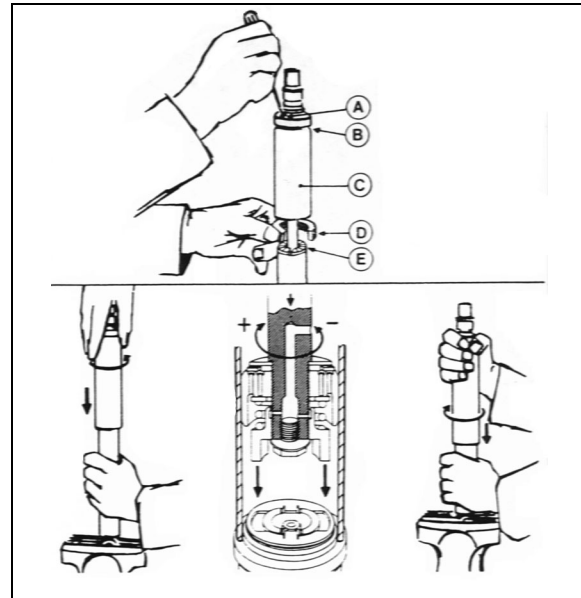

FIGURE 27: DAMPER
To adjust opening and closing cycle speed on damper (Figure 27):
2. Fully close the damper while turning the dust cap or piston rod slowly CCW until it is felt that the cams of the adjusting nut engage in the recesses of the foot valve assembly (Figure 27).
In Figure 27, if there is an indentation (B) in the dust cap (C) and the cover shows two holes (A), the damper is fitted with a bump rubber (D). If so, fully extend the damper and insert a round bar or screwdriver through the holes. Push the bump rubber down and remove. Remove the split plastic collar (E) (if fitted) from the piston rod.
Where a bump rubber was installed, refit same inside the dust cap and by fully closing the damper, the rubber will seat again at top of the dust cap. Refit the split plastic collar E (Figure 27).